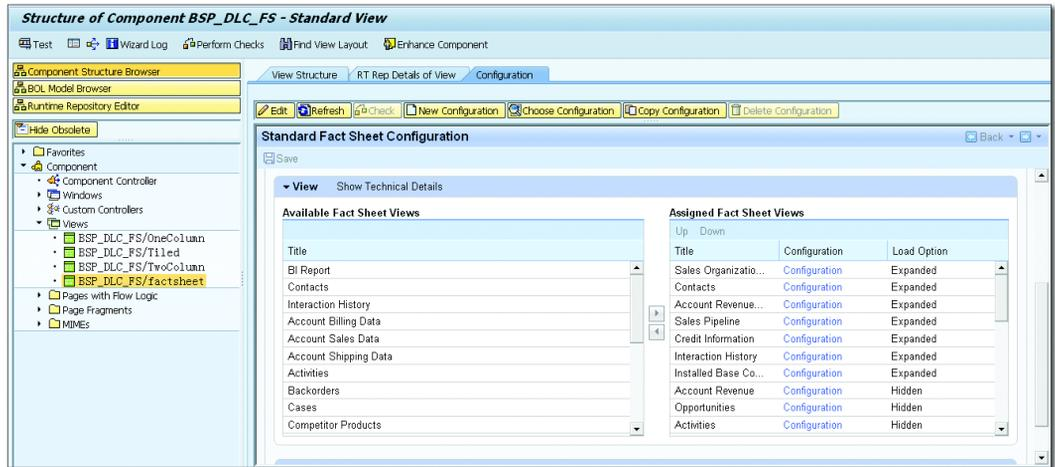

Figure 9.29 Fact Sheet Views
- Figure 9.29 shows the AVAILABLE FACT SHEET VIEWS and ASSIGNED FACT SHEET VIEWS lists. Within the ASSIGNED FACT SHEET VIEWS, you can access the configuration to add or remove the view fields based on your specific requirements.